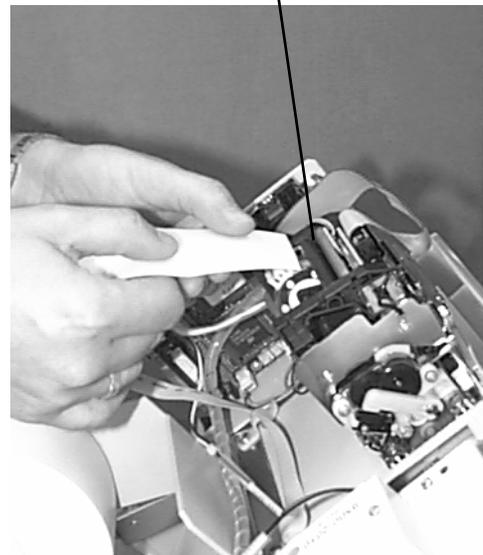

Figure 6-7. Feeding paper into the printer.
- Once the paper roll and spool are installed on the paper bracket, take the end of paper roll and feed it into the printer path paper entrance, as shown in Figure 6-7.